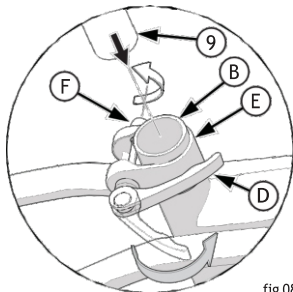

fig 08
- Open and close the Quick Release Lever with one hand while you turn the Adjusting Nut (F) with the other hand (**fig 08**).
- Tighten or loosen the Adjusting Nut (F) by hand, so that you first feel resistance to the quick release lever when it perpendicular to the bicycle frame.
- Push the Quick Release Lever to the “close” position (**fig 08**).